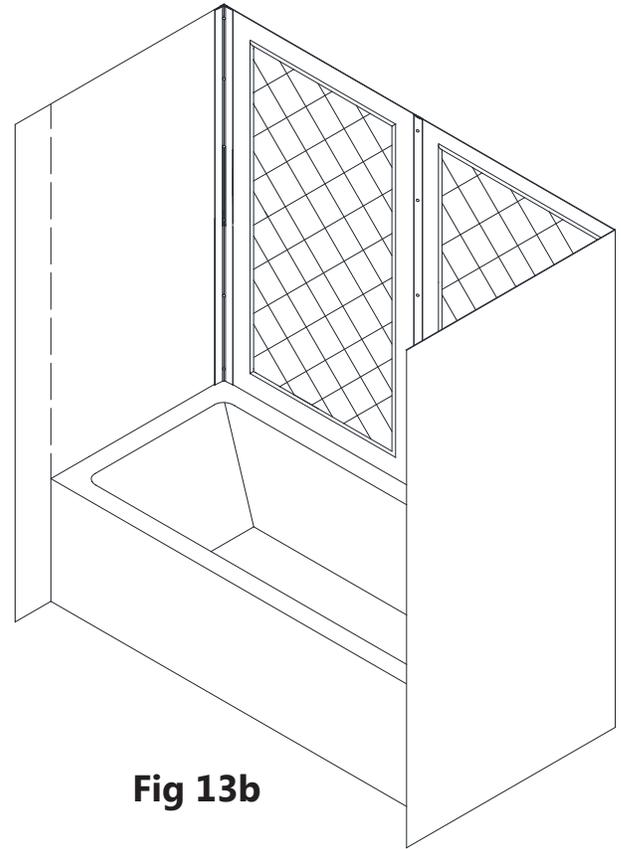

**Fig 12**
**12.** Repeat Step#10 and Step#11 to install the right **Back Panel (#02)** to the right side of the back wall. (**Fig 12**)